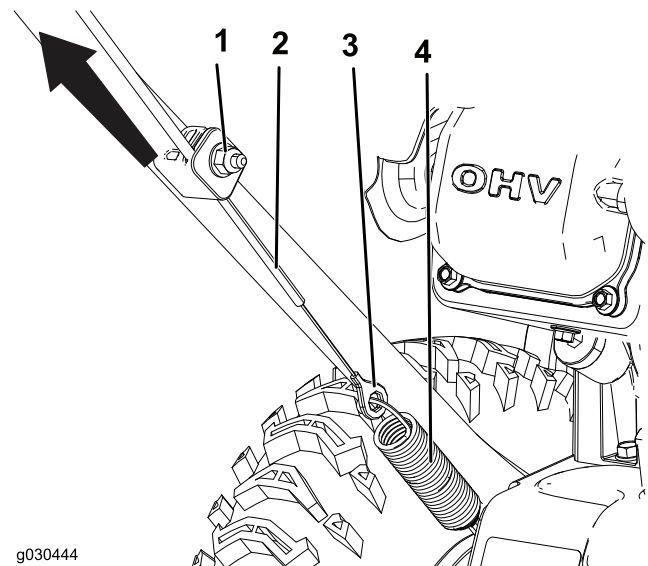

Figure 24
1. Loosen the nut on the lower cable clamp, but do not remove it (Figure 24).
2. Pull the cable up to remove some slack (Figure 24).
3. Hold the cable in place and tighten the nut (Figure 24).